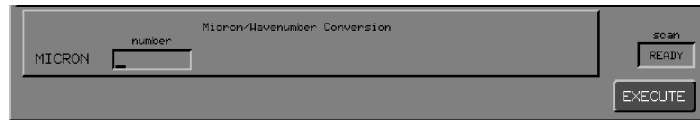

Figure 3-60 Command Line and Soft Keys for micron
*The command line and soft keys in Figure 3-60 appear. The alphanumeric cursor is in the **number** field.*